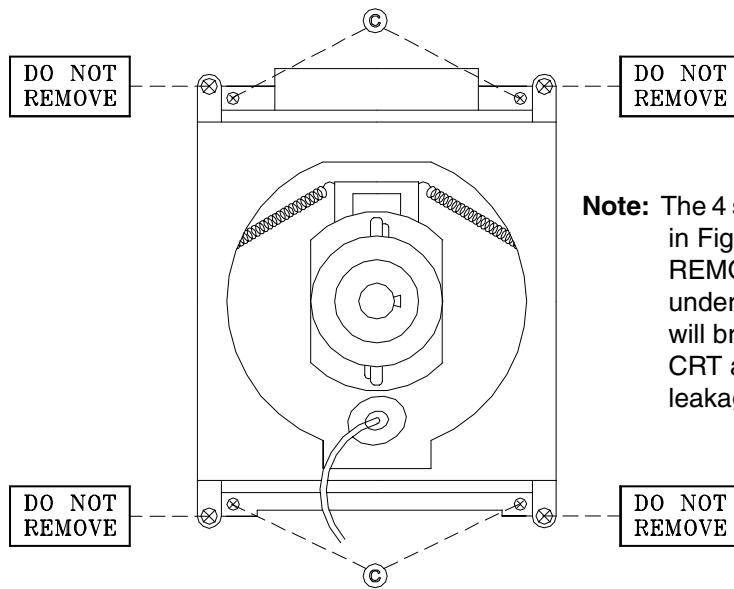

Figure 5-2
7. Remove 4 screws "c" retaining the CRT. [Figure 5-2]
Note: The 4 spring-loaded screws shown in Fig 5-2 and labeled as "DO NOT REMOVE", should not be loosened under any circumstance. Doing so will break the seal between the CRT and the CRT-Spacer, causing leakage of the CRT Coolant.